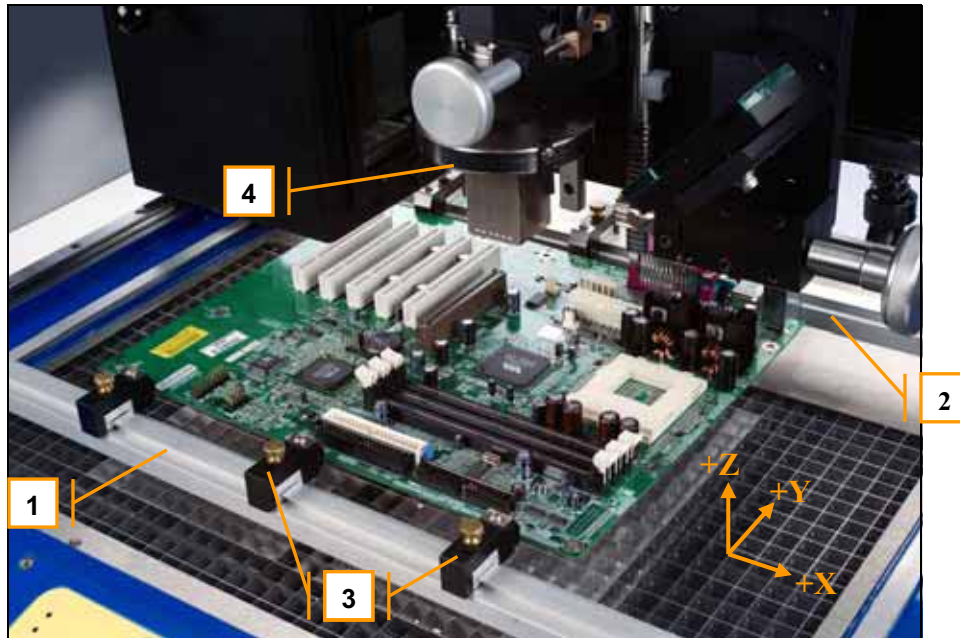

Figure 7: Board Fixture
1. Load the board with the component to be removed in the board fixture.(Fig. 7)
1. Load PCB onto adjustable board fixture (Fig. 7)
11. The cycle continues heating through Preheat (PH), Soak (SK) and Reflow (RF) steps. (Section 7.0)
12. The cycle progresses to the Cooling (CL) step, while air flows through the heater nozzle to freeze the solder joints. The cycle is complete. (Section 7.0)
13. When the board has cooled sufficiently, remove it from the board fixture (Fig. 7)